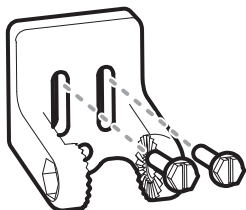

Figure 19
- Align the mounting bracket transducer assembly with the drilled holes in the transom. With a 5/16" socket driver, mount the assembly to the transom using the two #10 - 1" long screws provided (Figure 19). **Hand tighten only!**